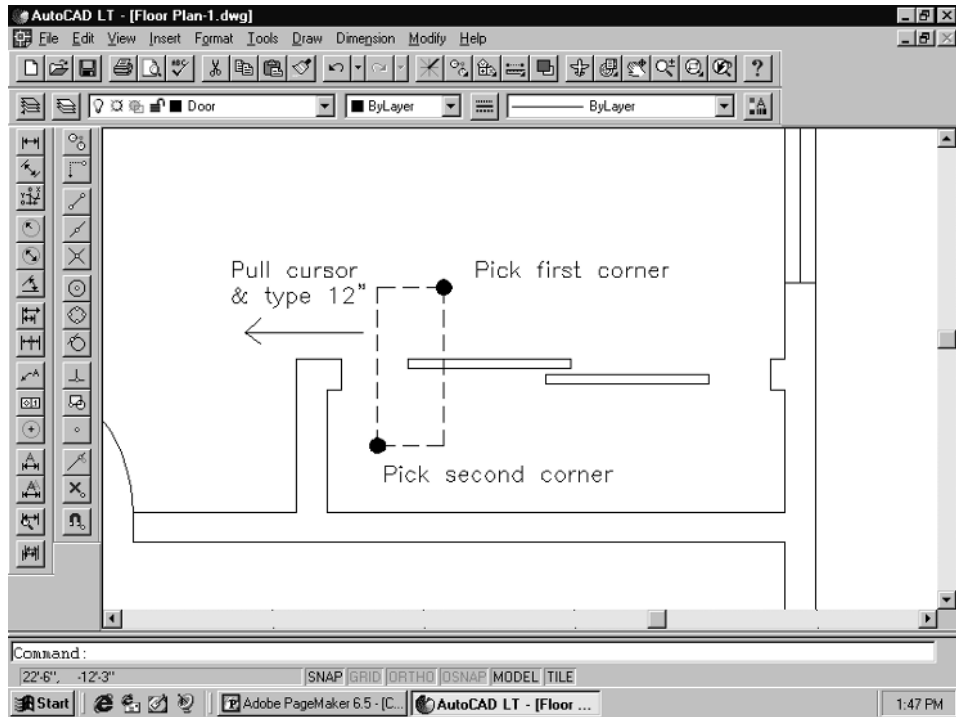

Figure 2-64
7. Because the copied door is only 5' long, the Master Bedroom door will need to be stretched 12" in each direction to create a 7'-long door. (Make sure Ortho is on for this exercise; F8.) Select **Stretch** from the Modify pull-down menu. Window the left end of the door with a "crossing window." Be sure to pick the points in the order shown in Figure 2-64, then hit **Enter**. At the *Base point* prompt, pick a point with your left button anywhere. At the *Second point* prompt, pull to the left, type **12"**, and **Enter**. This will stretch the left door panel 12" to the left.